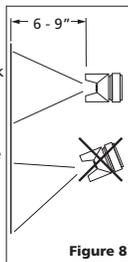

Figure 8
1. Begin spraying. Always keep the gun at right angles to the work by flexing your wrist while making the paint stroke. (See Figure 8).